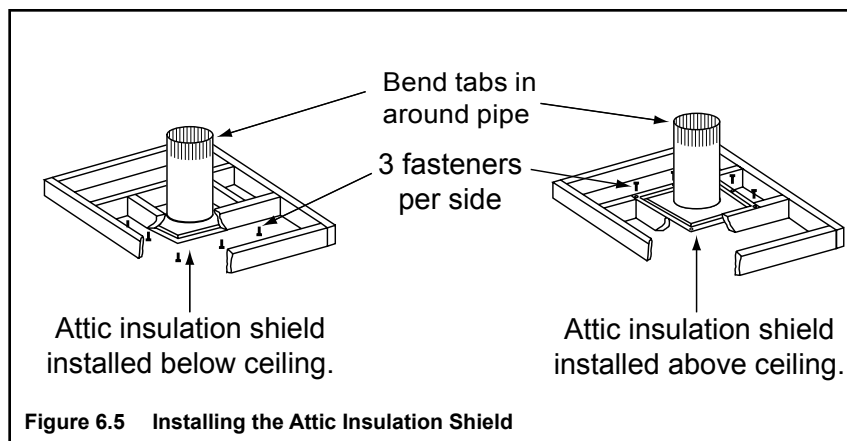

Figure 6.5 Installing the Attic Insulation Shield
- Attic insulation shield may be installed above or below ceiling (see Figure 6.5).